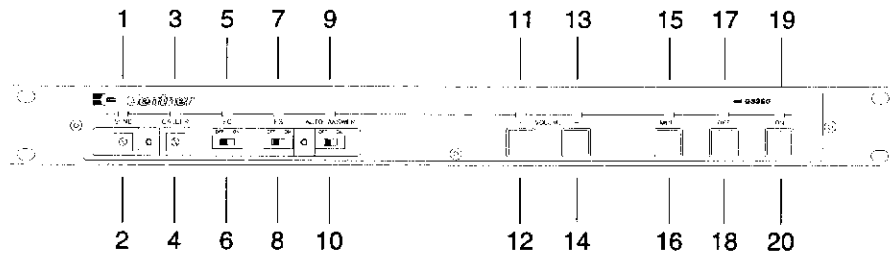

Figure 7a. G3200 front-panel controls
6. *EC*. This latching switch is a dual-purpose ON/OFF switch (Figure 7a, below). For normal operation (either auto mix-minus or acoustic echo